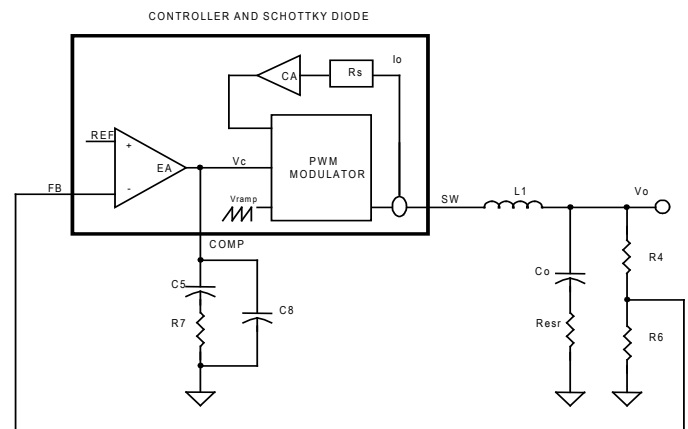

Figure 8. Block diagram of control loops
The goal of compensation is to shape the frequency response of the converter so as to achieve high DC accuracy and fast transient response while maintaining loop stability (see Figure 8).
The block diagram in Figure 8 shows the control loops of a buck converter with the SC4525EM. The inner loop (current loop) consists of a current sensing resistor (R_S=3.53mΩ) and a current amplifier (CA) with gain (G_{CA}=18.5). The outer loop (voltage loop) consists of an error amplifier (EA), a PWM modulator, and a LC filter.
For a converter with switching frequency F_{SW}, output inductance L₁, output capacitance C_O and loading R, the control (V_C) to output (V_O) transfer function in Figure 8 is given by: